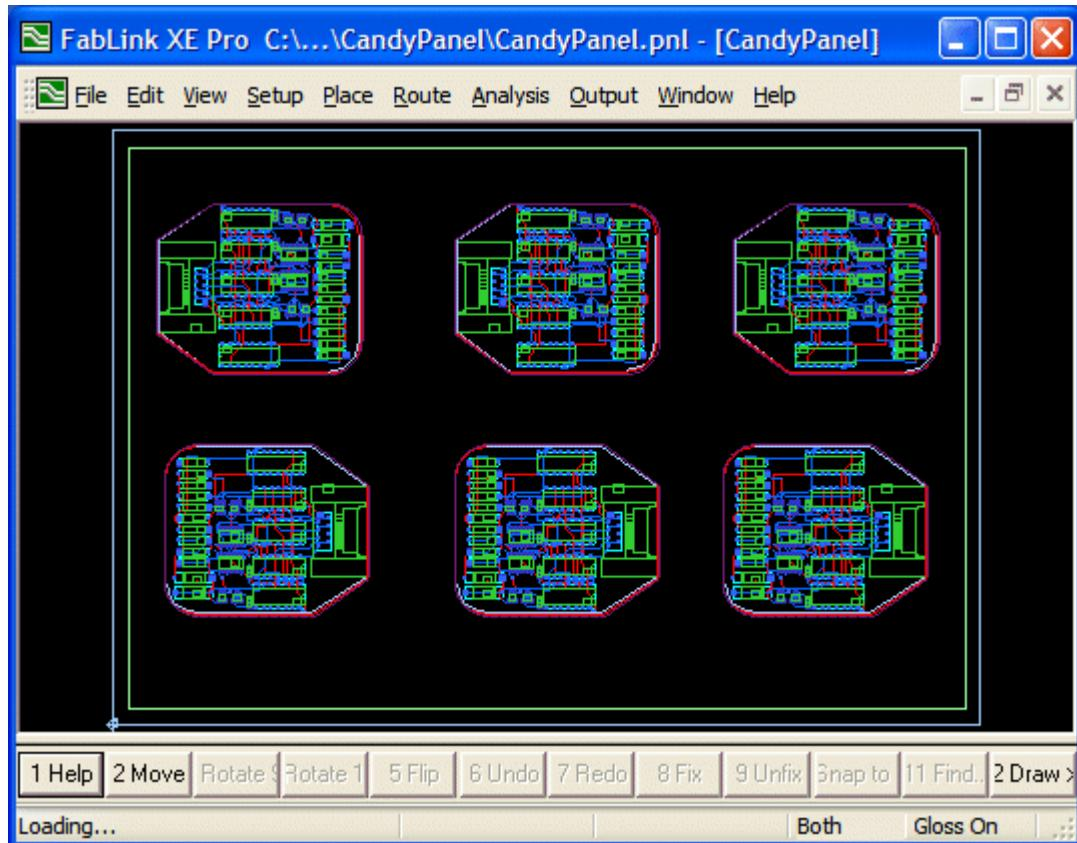

Figure 27-22. Our pre-defined CandyPanel panel.
- Our script presents all of the boards in the same orientation; that is, either 0° or 90°. However, there could be a process requirement to have different boards in different rotations. Consider our default *CandyPanel* panel, for example, in which the top row of boards are presented with 0° rotation and the bottom row of boards are presented with 180° rotation as illustrated in Figure 27-22.